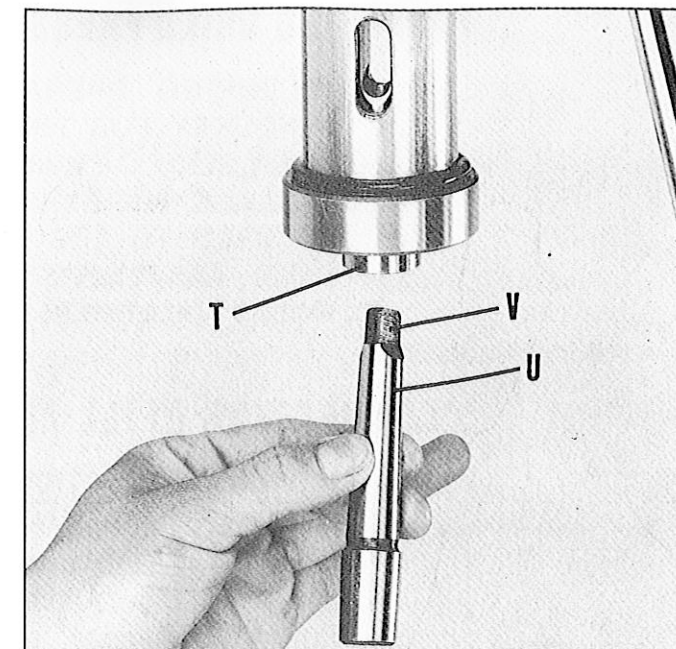

Fig 12
13. IMPORTANT: Make certain the tapered hole in the bottom of spindle (T) Fig. 12, and the taper on spindle adapter (U) are clean and free of any grease, lacquer or rust preventive coatings. NOTE: Household oven cleaner can effectively remove any substance from the spindle and spindle adapter, however, carefully follow the manufacturer's safety rules concerning its use.
14. Push spindle adapter (U) Fig. 12, up into spindle (T) making certain the tang (V) engages and locks with the mating slot inside spindle (T).